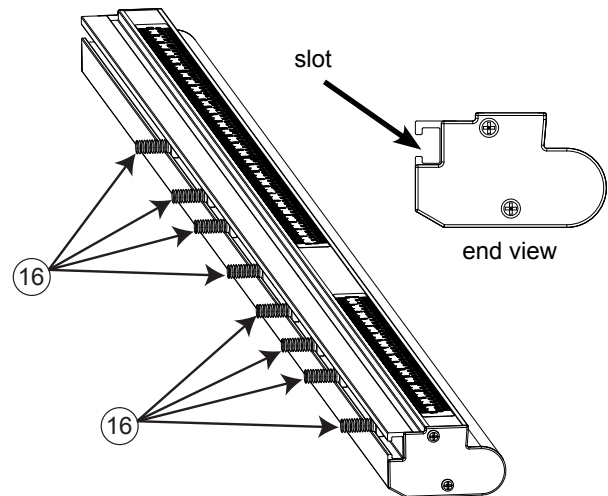

Fig. 2
2. Remove eight M8 x 20 square head screws from the hardware pack and slide the square head of each screw into the slot along the rear edge of the front rail (see Fig. 2).